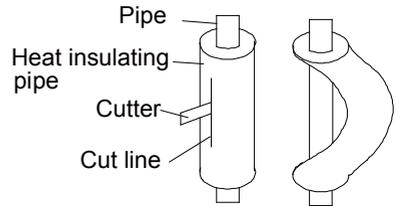

Fig. 4.12
- (2). Do not bend the pipes in an angle more than 90°.
- (3). When pipes are repeatedly bent or stretched, the material will harden, making it difficult to bend or stretch them anymore. Do not bend or stretch the pipes more than three times.
- (4). When bending the pipe, do not bend it as is. The pipe will be collapsed. In this case, cut the heat insulating pipe with a sharp cutter as shown in Fig. 4.12, and bend it after exposing the pipe. After bending the pipe as you want, be sure to put the heat insulating pipe back on the pipe, and secure it with tape.